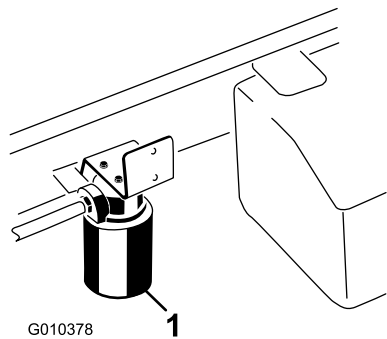

Figure 67
3. Place a drain pan under the filter and remove the filter (Figure 67).